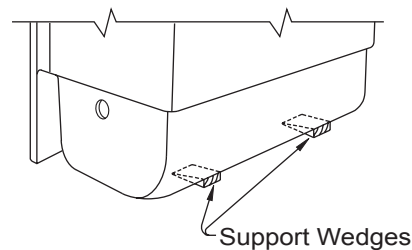

Figure 4
7. Shims are recommended. Place shims under the unit after it is put into place and as it is being leveled. Apply an adhesive to the bottom of each shim to permanently secure into place. To ensure proper fit, support and a solid base, a minimum of two shims must be used on each unit. See *Figure 4* for additional details.